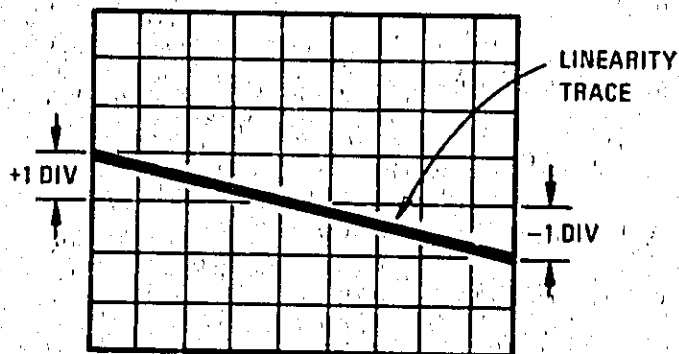

Figure 5-11. FM Linearity Display
4. Set variable-phase generator's reference phase output for a 1 kHz signal at an amplitude that gives a 2.56 MHz peak deviation indication on the Signal Generator's panel meter. Set linearity circuit's voltage divider switch to 100. Adjust generator's variable phase output's phase for a straight line on the display as shown in Figure 5-11. Adjust oscilloscope's vertical gain for ± 1 division at edge of display.